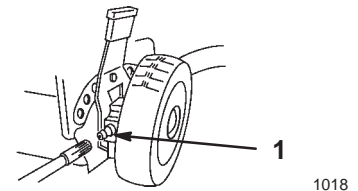

Figure 29
1. Wipe the grease fittings on the rear wheel height adjustment levers with a clean rag (Fig. 29).